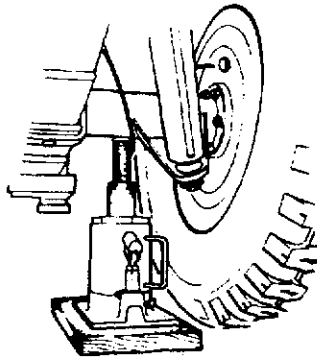

Figure 2-6 Jack Position - Rear Wheels
- (2) Rear wheel. Position the jack so that when raised, it will contact the axle tube between the spring and the shock absorber bracket (see Fig. 2-6).